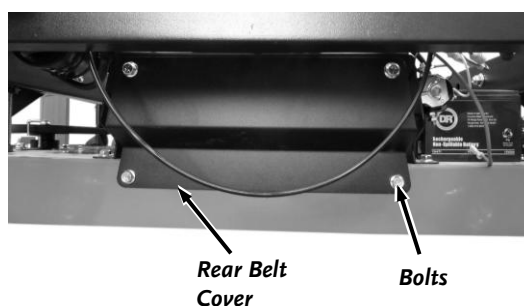

Figure 47
6. At the rear of the machine, use a 9/16" Wrench to remove the three (Pro 44TF) or four (Pro XL60TF) Bolts securing the Rear Belt Cover and remove the Cover (Figure 47).